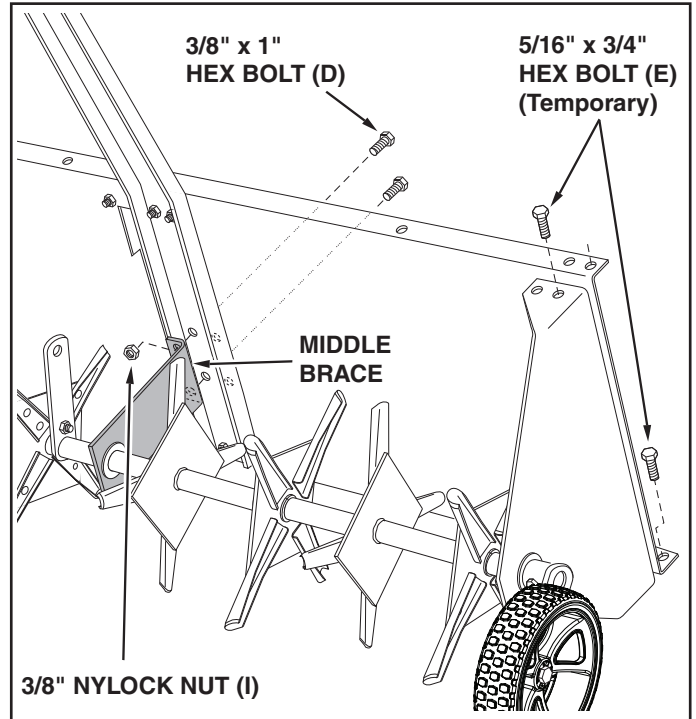

FIGURE 9
- Place the tray between the end plates. Temporarily insert one 5/16" x 3/4" hex bolt (E) into each back corner and one of the front corners of the tray to hold end plates together at three of the four corners. See figure 9.
- Rotate the middle brace up against the tongue, aligning it on the side of the tongue that is next to the slot in the tray. Fasten the brace to the tongue using two 3/8" x 1" hex bolts (D) and 3/8" nylock nuts (I). See figure 9. **Do not tighten till step 17. Remove temporary bolts.**